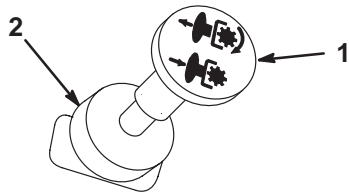

Figure 5
2. Move the PTO (power take off) to Off (Fig. 5).
2. Move the PTO to Off (Fig. 5).